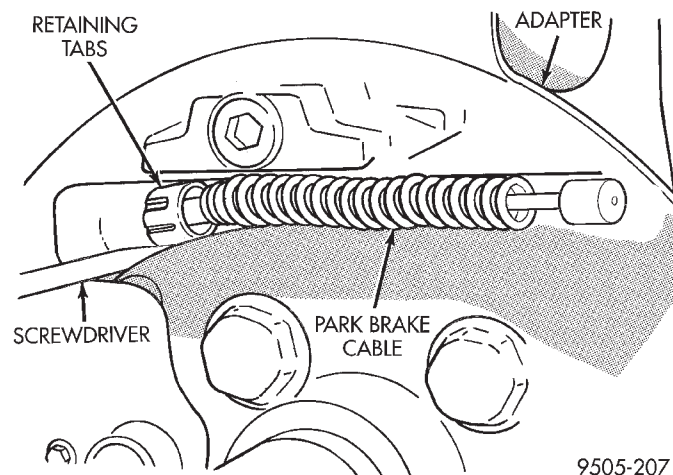

Fig. 137 Removing Park Brake Cable From Adapter
(8) Remove park brake cable from adapter using the following procedure. Compress retaining tabs on park brake cable housing using a small screwdriver (Fig. 137) while pulling and rotating park brake cable until cable is removed from adapter.